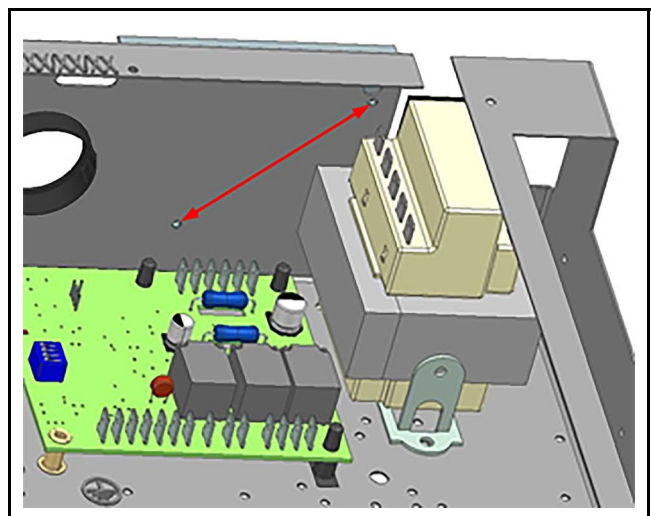

Fig. 3 Holes Locations to be Marked (SM Control Box Bottom View)
- c. Mark hole pattern on mounting base to be drilled. Refer to Fig. 3.